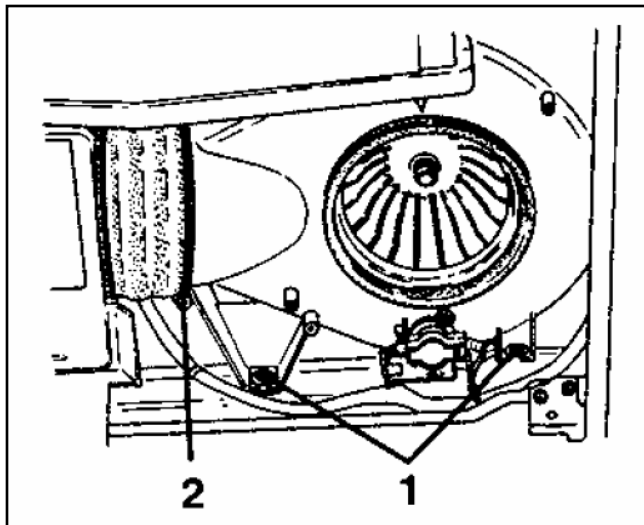

Figure 5-13: Removing the Pump
5. Remove the two screws (refer to Figure 5-13 – Removing the Pump).
6. Loosen the clip; refer to Figure 5-13, Item 2, disconnect the hose and remove the pump.